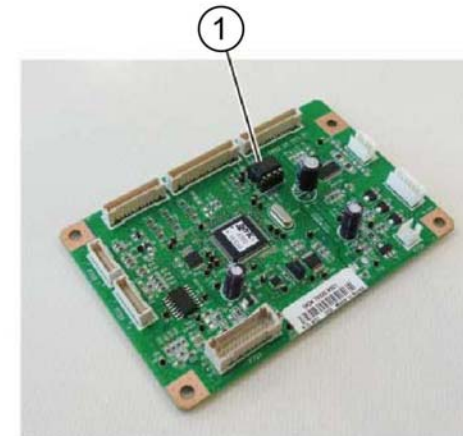

Figure 4 SEEPROM
2. Remove the SEEPROM (1) from the old DADF PWB, then install it onto the new DADF PWB, Figure 4.